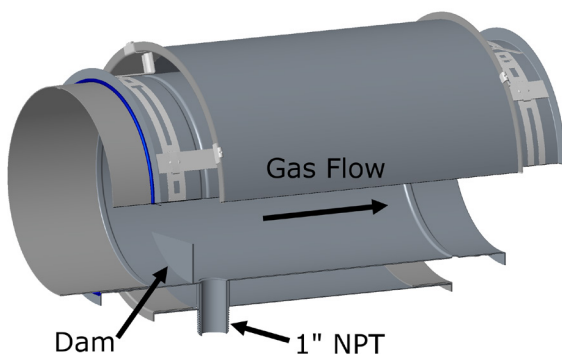

Figure 30- Horizontal Drain Length
1. Horizontal Drain length is equipped with a 1" (25) NPT nipple, which is attached to the inner flue and extends through the outer casing to provide a path to drain, condensate or water from the chimney. See **Figure 30**.
3. The duct drain is intended for use at the end of a horizontal run where access and drainage is needed (see **Figure 30**).